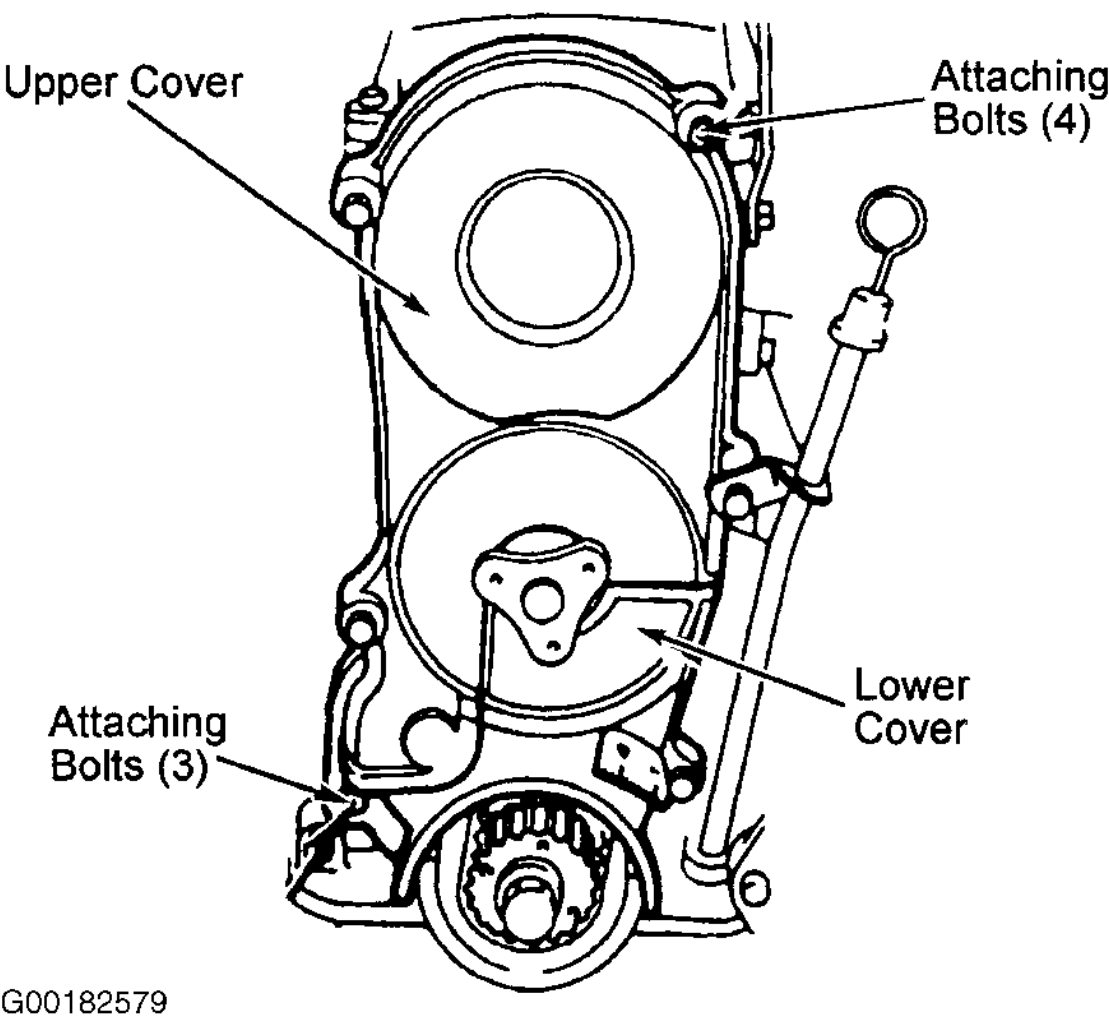

Fig. 2: Locating Timing Belt Upper & Lower Covers
1. Disconnect negative battery cable. Remove accessory belts. Remove water pump pulley. Remove right inner fender panel to gain access to crankshaft pulley. See Fig. 1 . Remove outer crankshaft pulley attaching bolts, then outer stiffener and spacer. Remove inner pulley and baffle plate. Remove bolts retaining upper and lower cover halves to engine front. Remove both covers. See Fig. 2 .